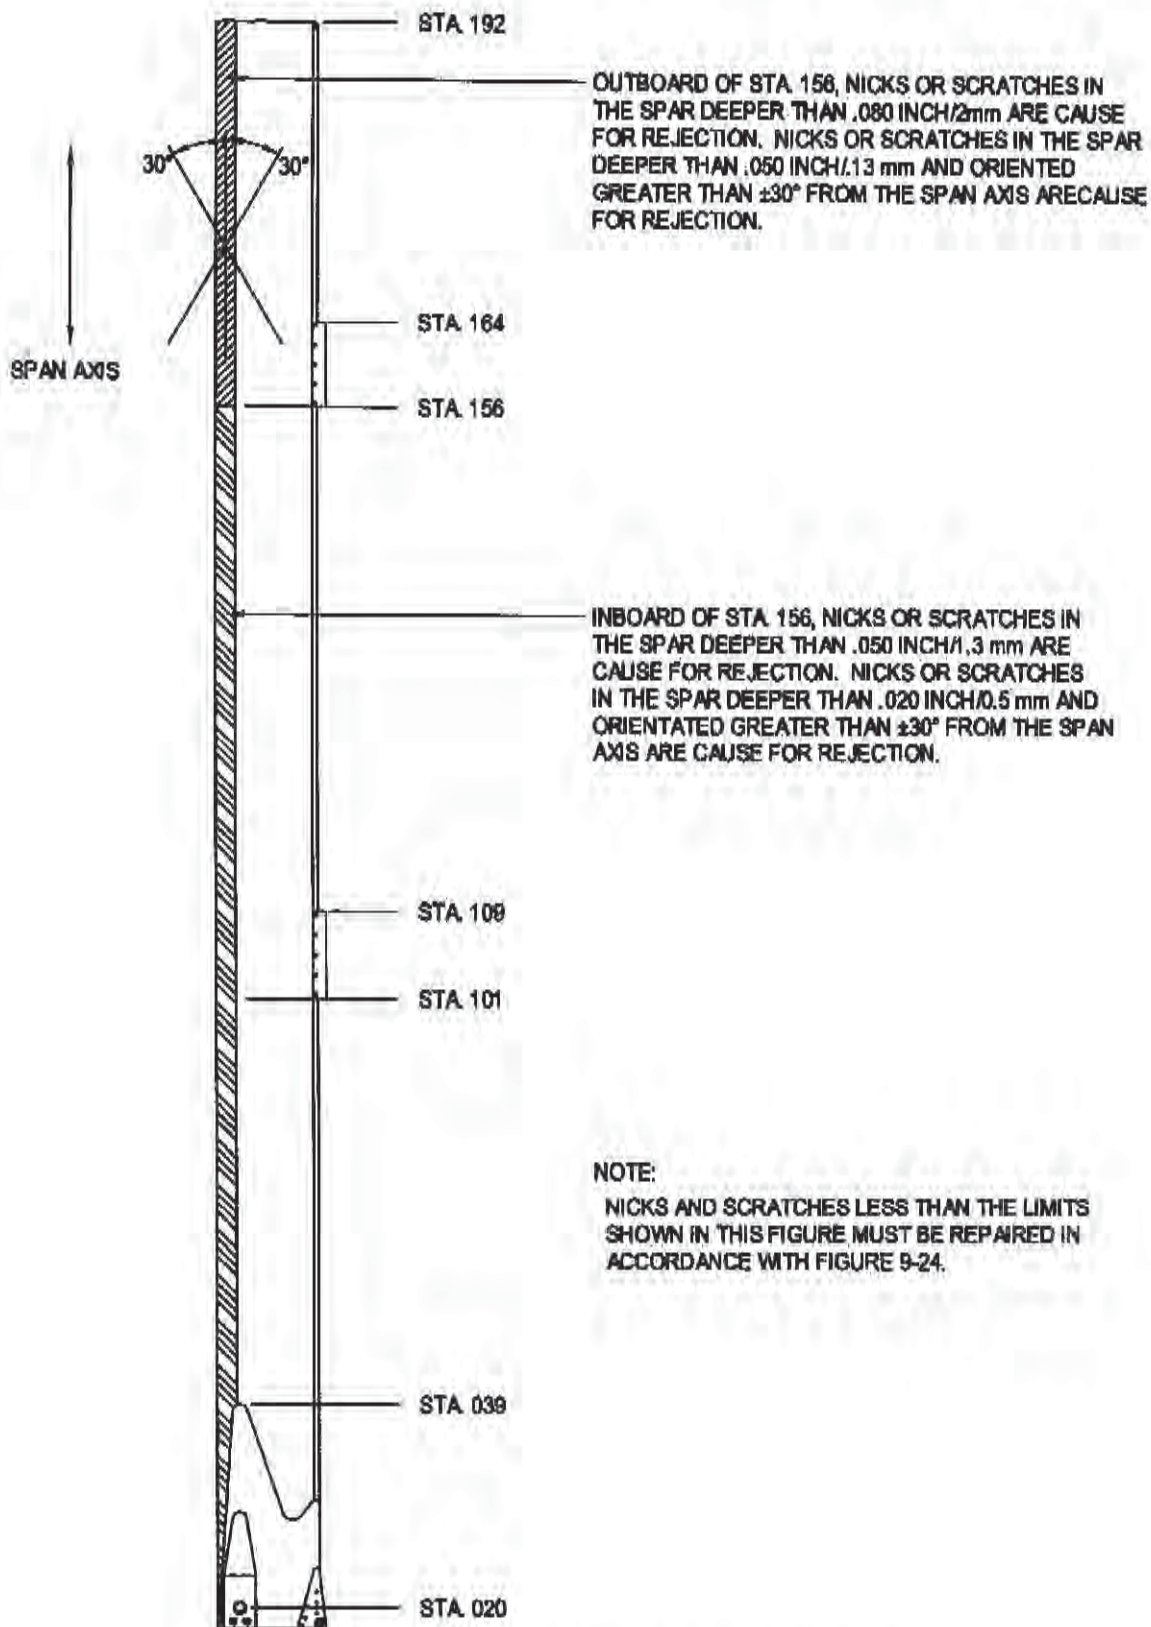
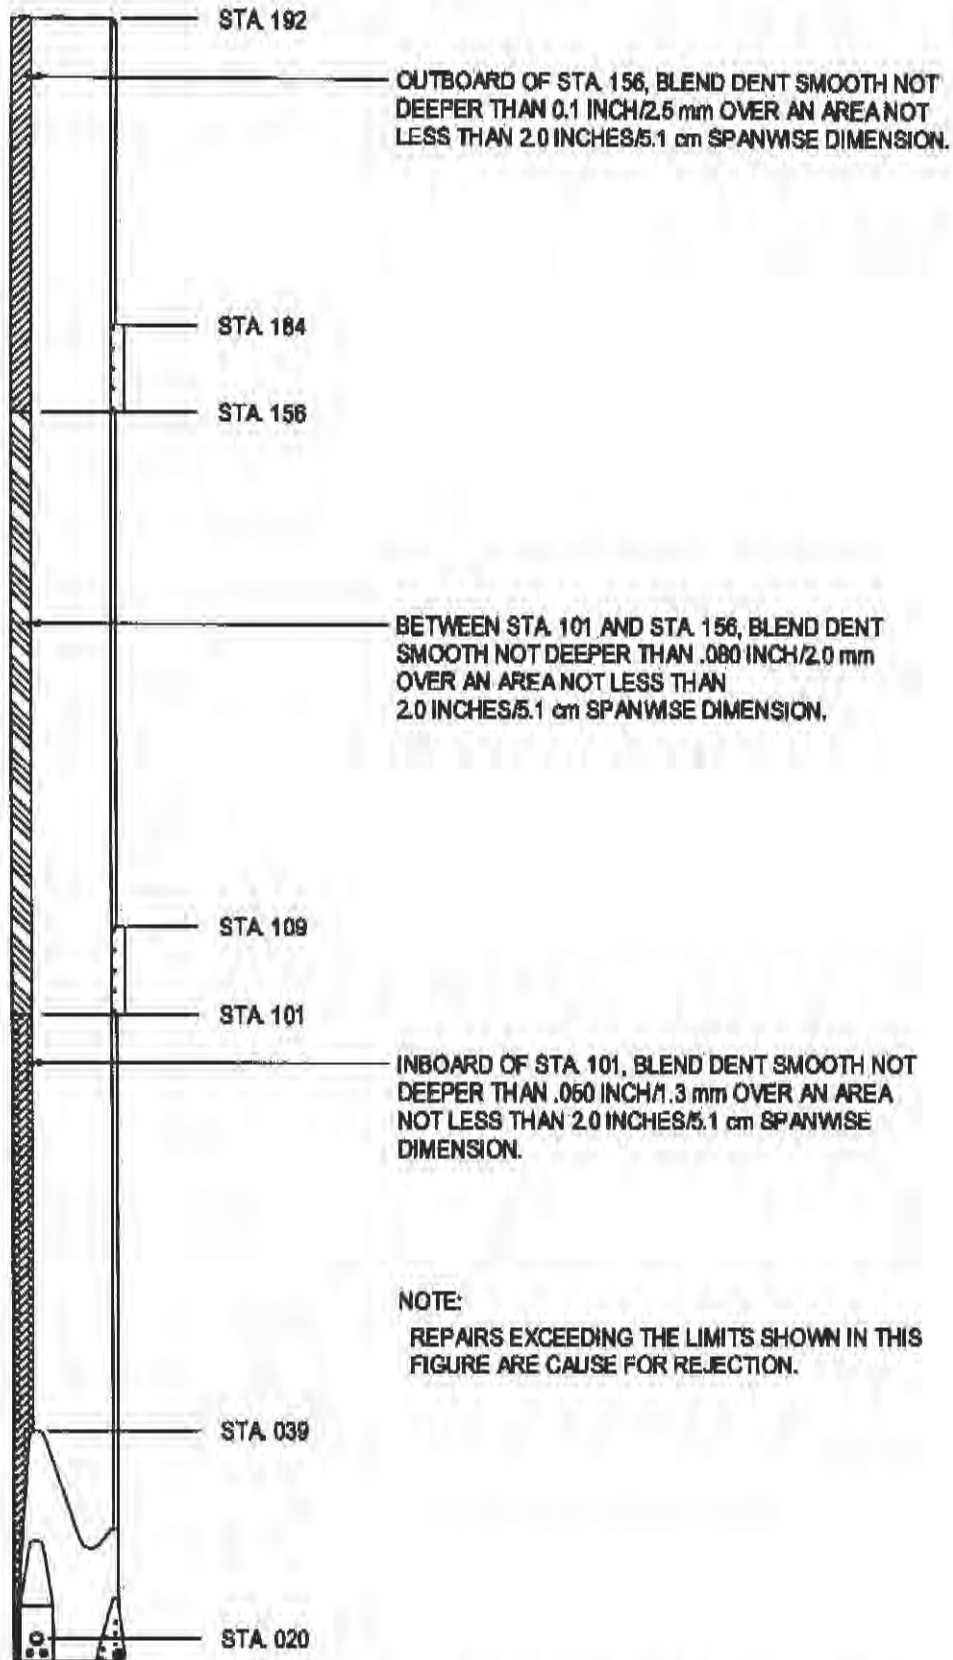
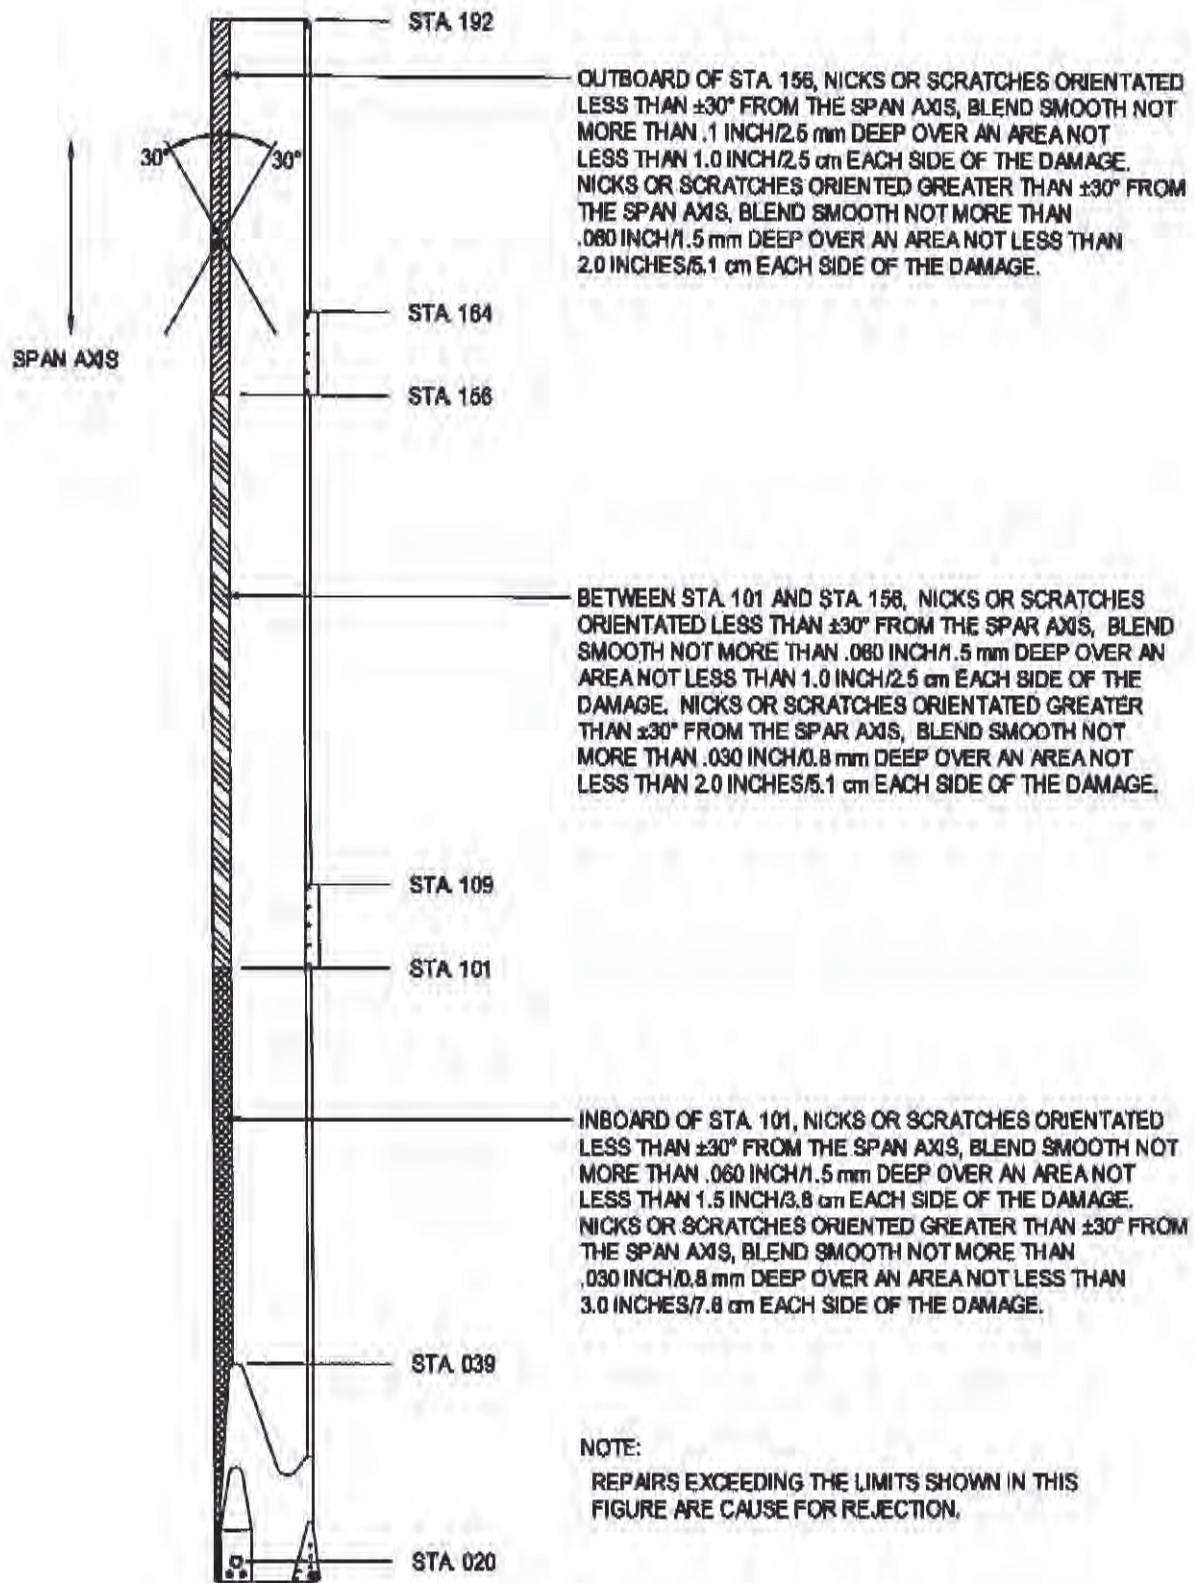

Figure 9-22. Main Rotor Blade Spar Damage Limits
Figure 9-23. Main Rotor Blade Leading Edge Repair Limits
Figure 9-24. Main Rotor Blade Spar Repair Limits
F. Inspect the main rotor blade spar (Figure 9-21 and Figure 9-22), skins, trim tabs, retention plates, drag link fittings, and root doublers for nicks, scratches, dents, and cracks.
G. Damage to the blade spar not exceeding the limits in Figures 9-21 and Figure 9-22 must be repaired I/A/W Figure 9-23 and Figure 9-24. Reject any blades that have damage exceeding the limits in Figures 9-21 and Figure 9-22.
- (1) Punctures in the blade skin.
- (2) Sharp dents with a width to depth ratio less than 3:1 and deeper than .020"/.51 mm.
- (3) Smooth dents which have resulted in permanent skin deformation greater than .060"/1.5 mm in depth.
- (4) Nicks and scratches in the cordwise direction greater than .010"/.25 mm in depth.
- (5) Nicks and scratches orientated within $\pm 30^\circ$ of the spanwise direction greater than .020"/.51 mm in depth.
- (6) Trailing edge cordwise dents or nicks deeper than .20"/5.1 mm.
- (7) Trailing edge flapwise kinks extending more than .20"/5.1 mm.
- (8) Cracks.